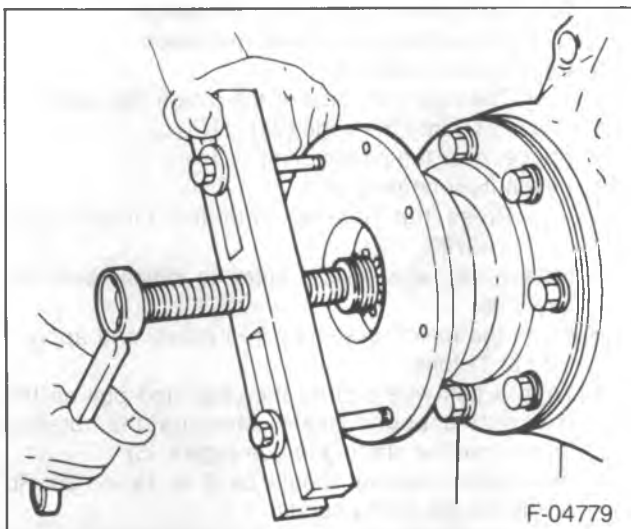

Figure 12—Removing the Pinion Flange
17. Pinion yoke (60) using J 7804-01 (figure 12).